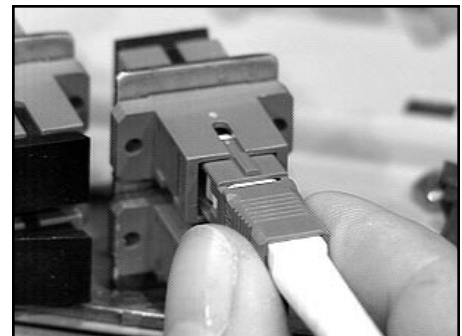

Fig. I4
A. Hold the connector by the housing. Align the key on the connector housing with the slot of the coupling (Fig. I4) and push into place with a positive click. (The white line or slot in the housing will not be visible when fully latched).